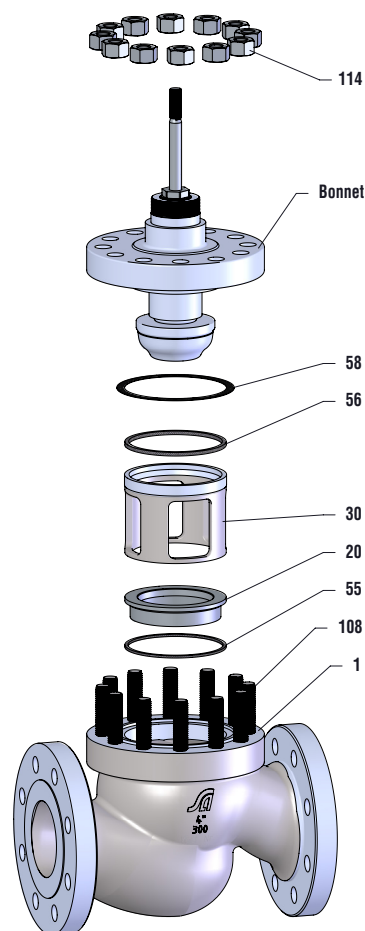

Figure 9: Disassemble / Reassemble the valve
9. Install a new profile ring (55) and seat ring (20).
10. Lower the seat retainer (30) into the body and place it on top of the seat ring (See Figure 9).
11. Lower the plug assembly (50) into the body with the plug touching the seat ring surface.
12. Install the new seat retainer gasket (56) and the new bonnet gasket (58).
13. Carefully lower the bonnet (40) onto the plug in the body of the valve (See right column for pressure balanced trim).
14. Install and finger tighten the bonnet nuts (114) to the bonnet bolts (108).